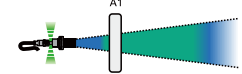

Figure 13 - Set Output Signal (A1)
- The purpose of the adjustment is to set the threshold points A1 and A2 (see Figures 13 and 14), which determine the level of the output signal (see points 12 and 13).